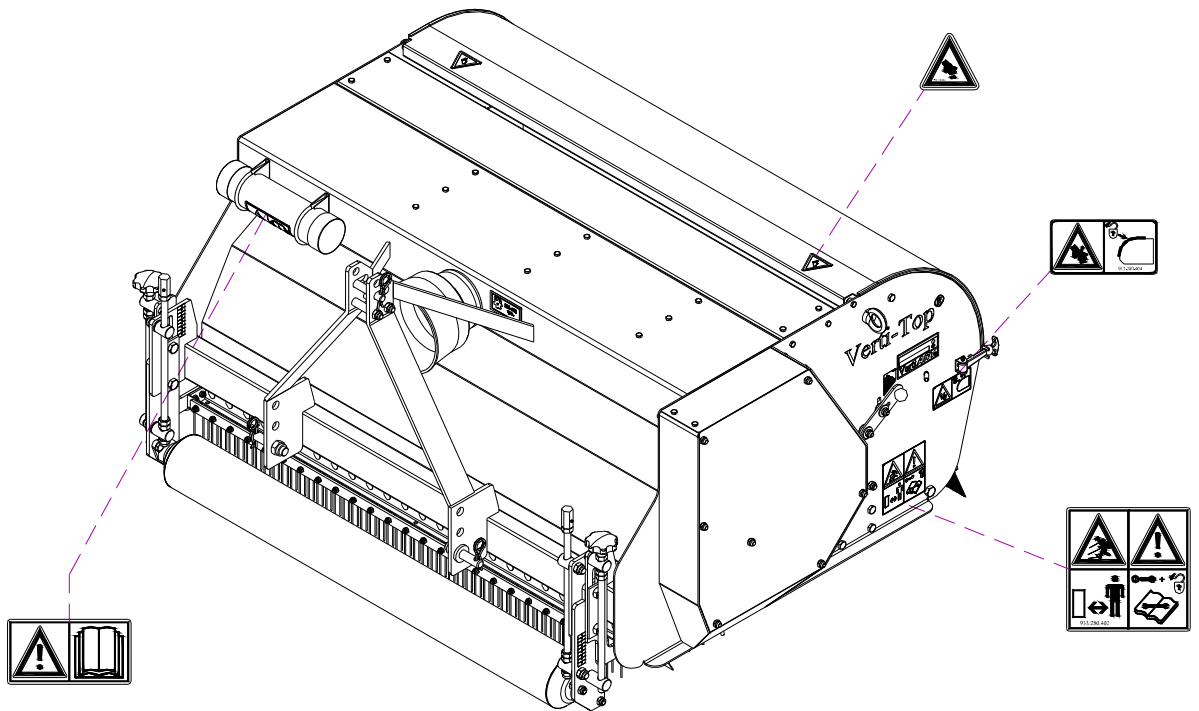

Fig.7
Safety stickers with an identical meaning are attached to the sideboard (Figure 4, 5 and 6) and to the rear cover (Figure 7) of the Verti-Top. These safety stickers must always be clearly visible and legible and must be replaced in case they have become damaged.
- (7) Location of the safety stickers (on both sides of the machine) (Figure 7)